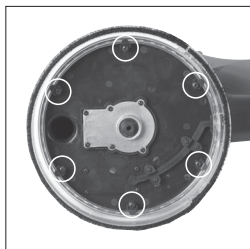

Fig. 15
- Use a cross-head screwdriver and remove the six (6) self tapping screws and the special fixing clips (**Fig. 15**) that
- During installation of a new Brush Skirt take care to not over tighten the six (6) self tapping screws. These should be firmly tightened but be careful not to strip the threads within the tapped holes.